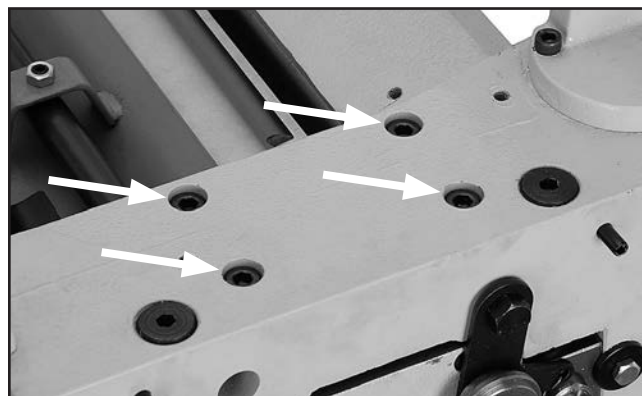

Figure 7. Gearbox cap screw location.
19. Remove four cap screws at the top of gearbox, shown in **Figure 7**.